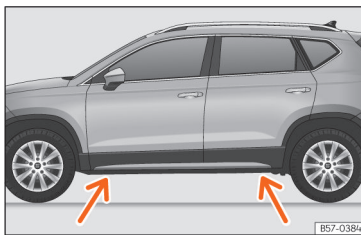

Fig. 228 Jack position points.
- Look on the strut for the mark of the jack support point (sunken area) closest to the wheel to be changed >>> **Fig. 228**.